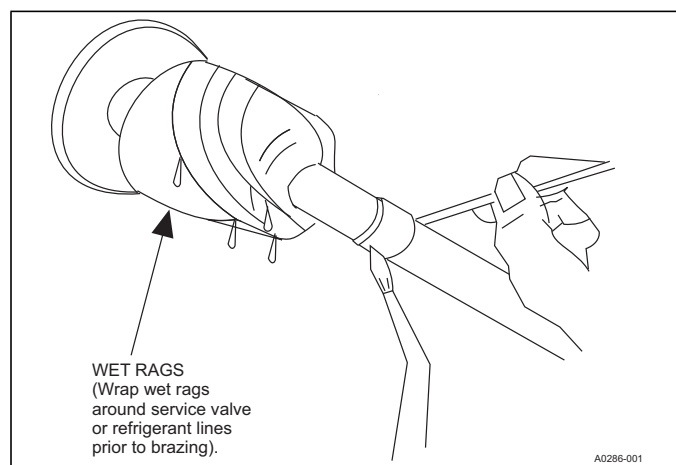

FIGURE 5: Heat Protection
Precautions should be taken to prevent heat damage to service valve by wrapping a wet rag around it as shown in Figure 5. Also, protect all painted surfaces, insulation, and plastic base during brazing. After brazing, cool joint with wet rag.
7. Slide the grommet away from the vapor connection at the indoor coil and wrap with a wet rag as shown in Figure 5. Braze the vapor line to the indoor vapor connection. After the connection has cooled, slide the grommet back into original position. After this connection has cooled, remove the nitrogen source from the liquid fitting service port.